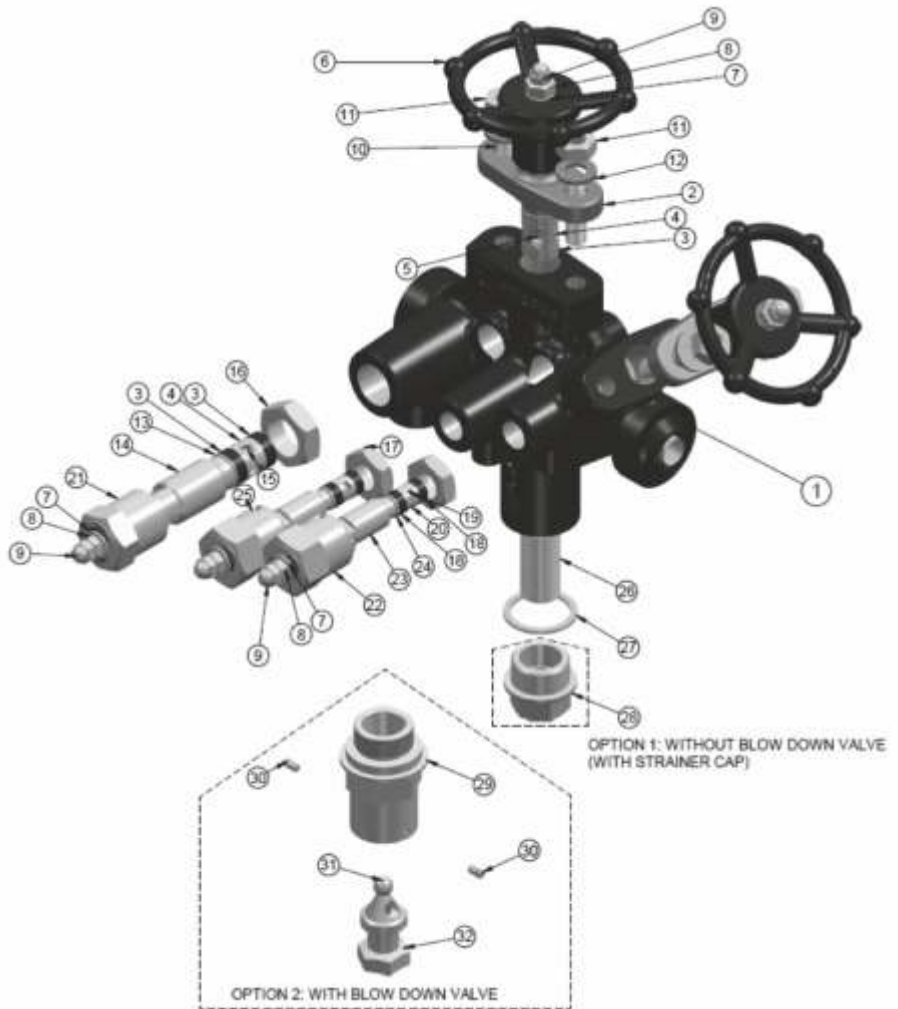

Figure 1: Exploded View
4. Operation: [Refer figure 1 & 3]